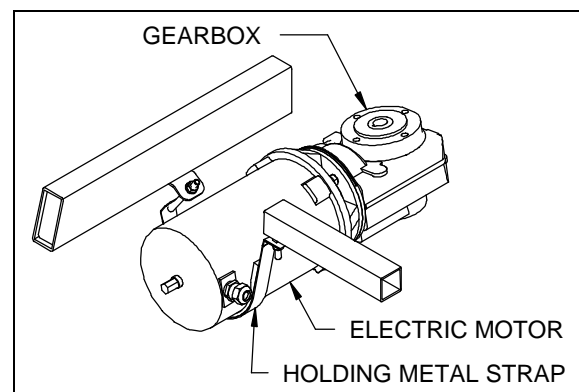

FIGURE 24 : ELECTRIC MOTOR
Inspect the electrical connections and their watertightness. Check that the bolts and the holding metal strap are tight (figure 24).
2. Disconnect the electric wire cable from the motor. Release the motor holding metal strap (figure 24).
5. Replace and tighten the motor holding metal strap (figure 24).